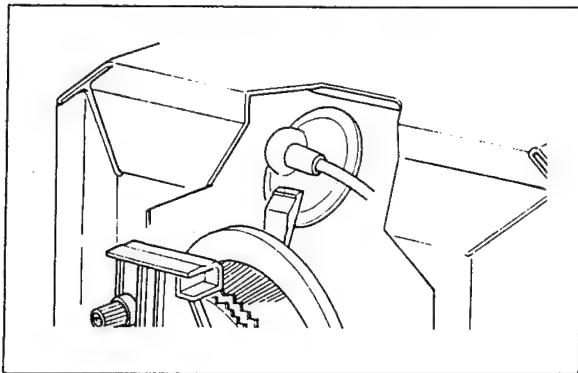

Fig. 3-3. Temporary deflection yoke positioning
5. Fix the deflection yoke temporarily and insert the rubber spacer at the top as shown in Fig. 3-3.